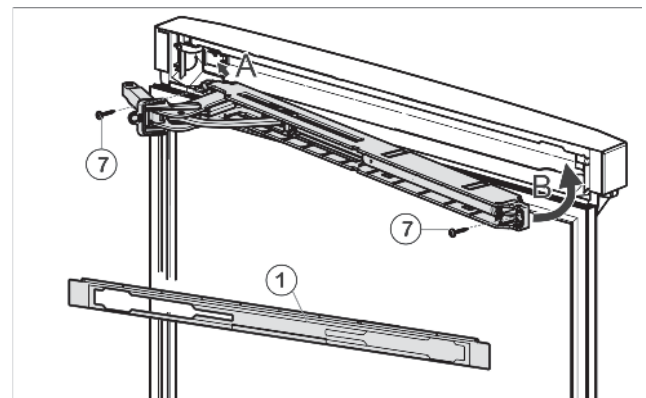

Fig. 56
- ▶ With the hinge of the upper soft stop unit facing the door hinge side, engage the soft stop unit (A) and swivel inwards (B).
- ▶ Tighten soft stop unit (2 x Torx 15) *Fig. 56 (7)*.